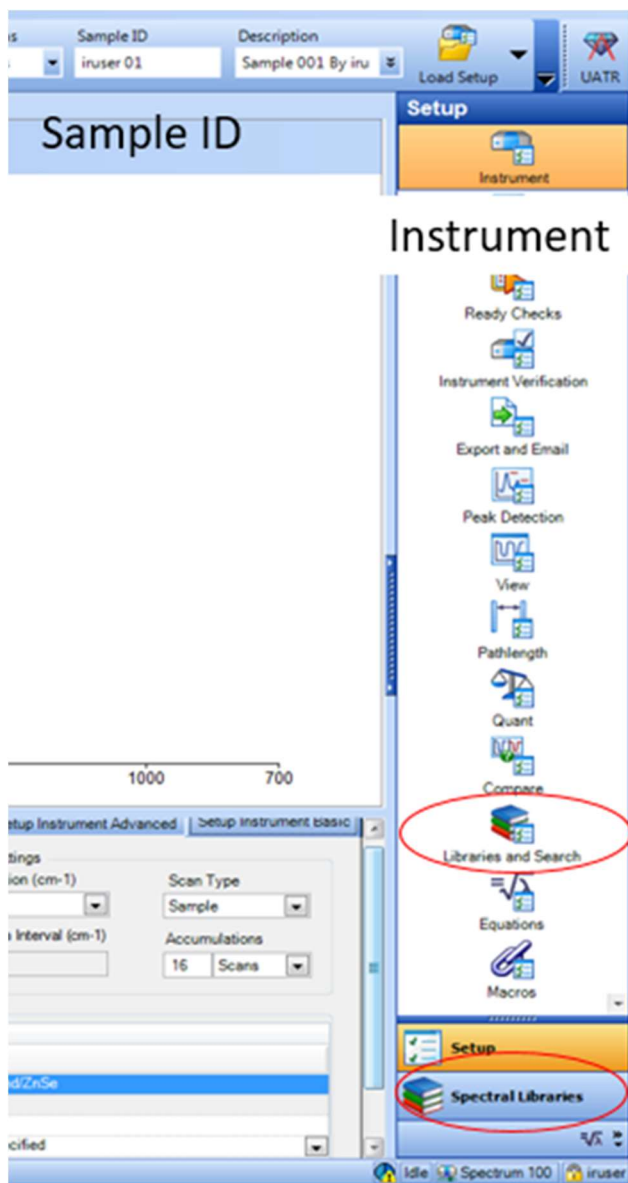

Figure 13. Libraries and search and Spectral libraries tabs in red circles.
1. If you want to see the different compounds of each library, select the Spectral libraries tap (Figure 13).
2. To start the search, Select Setup < Libraries and Search tap (Figure 13). In the Setup Spectral libraries tab you can include those libraries that you want to use on this occasion.